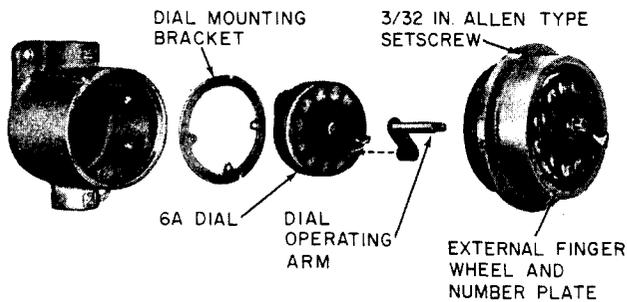

Fig. 3—KS-16014 Dialing Unit
2.03 The KS-16014 dialing unit (Fig. 3) should be used to replace an ETD-22 dialing unit when trouble is experienced. The KS-16014 dialing unit contains a 6A dial that may be replaced in case of trouble.
2.08 The KS-14548 set and component shown in Fig. 3, 4, 6, and 7.